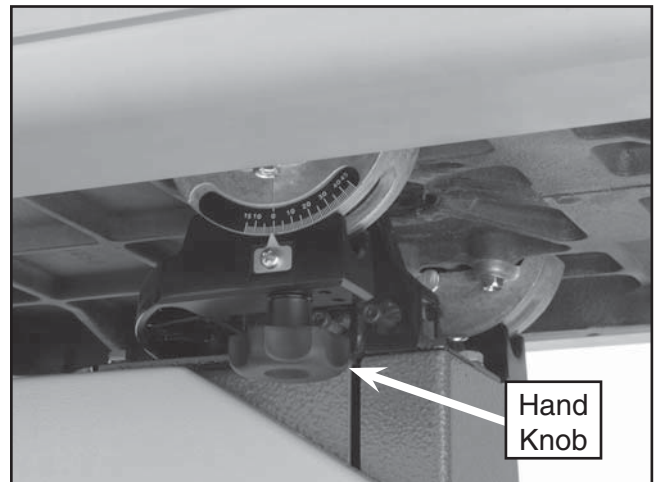

Figure 11. Table installed on trunnions.
3. Thread the hand knobs onto the table bolts to secure the table (**Figure 11**).